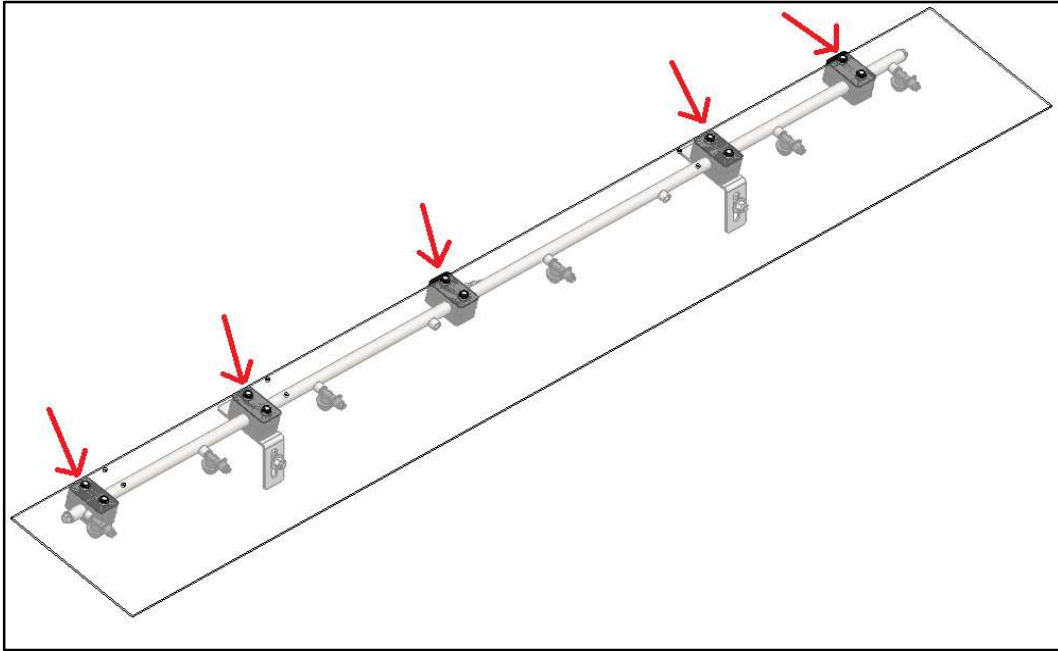

Figure 2: Locations of the ten screws to be removed from the existing Tire Shine assembly. There are two screws per marked location.
3.) Remove the spray manifold (with all nozzles and fittings still attached) from the grouping of parts that was removed in step 2. This will require the removal of 10 total screws that fasten the shield to the plastic blocks, which are clamped around the spray manifold, as shown in **Figure 2**. Only the spray manifold and its existing fittings, nozzles, etc. will be retained for use in the retrofit install, the other components can be disposed of as desired.